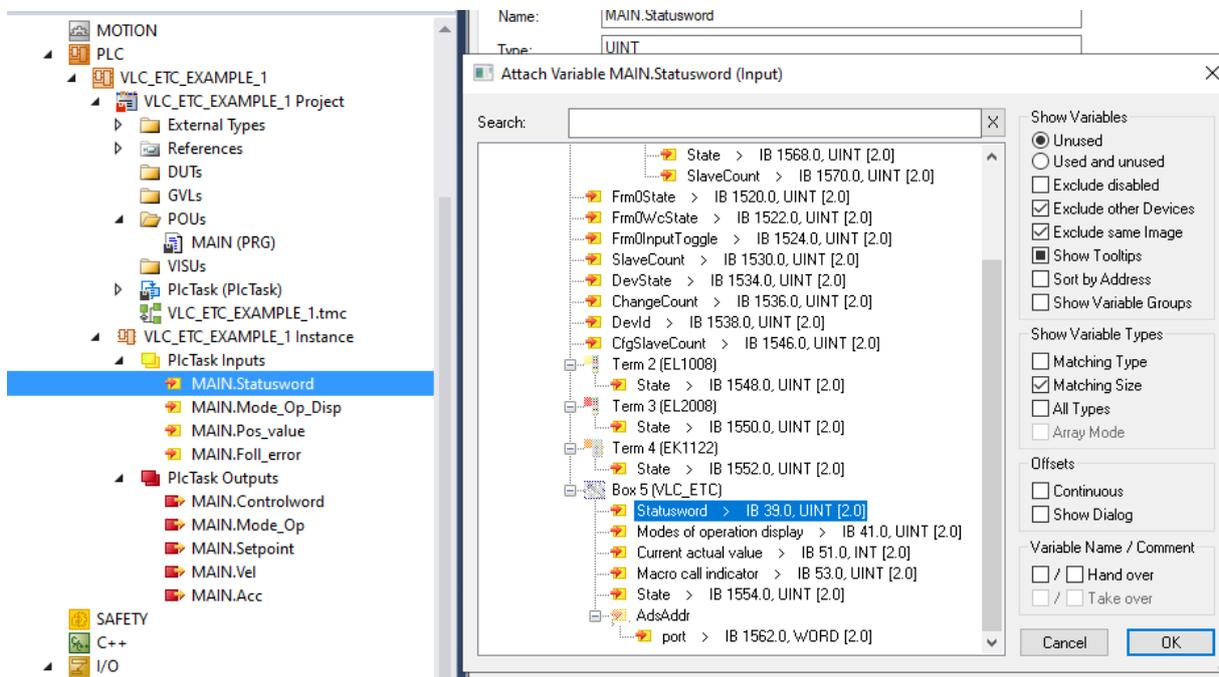

Figure 3.14. Linking the PLC input and output variables with the cyclic servo objects.
- In the left-pane under the instances shown in Figure 3.14, PlcTaskInputs and Outputs appear now. These contain the variables that have been declared in the PLC program. Right-click on each of the variables and select 'Change link' and find the corresponding cyclic servo object of the VLC-ETC.